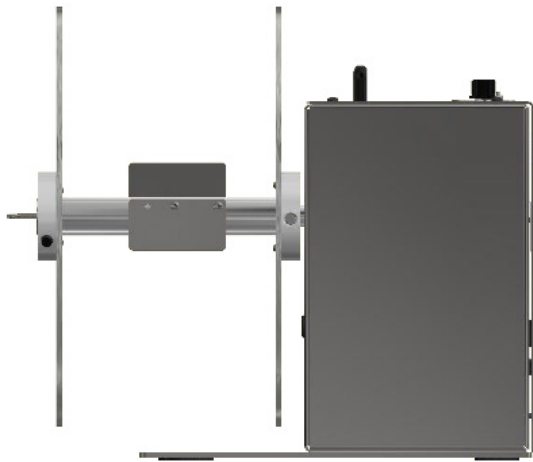

FIG. 1
- The CAT-3-Standard has a vane-style core Holder (FIG.1)
- STANDARD, 1-INCH AND 10-INCH(FIG.1): Slide the Flange Plate onto the hollow end of the Rewind Shaft. For maximum width, the Flange face should be flush with the end of the Shaft. Tighten the screw in the Hub.